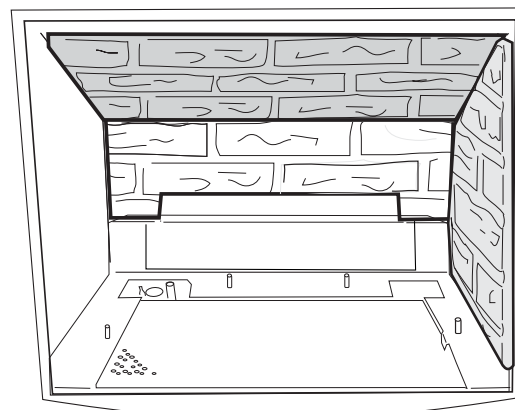

Figure 44 . Install the Upper and Side Panels.
- 6. Install one of the Side Panels,** pushing it up against the firebox wall. Fig. 44
- 7. Position the Upper Panel.** You should seat the Upper Panel down and forward so that no gaps are evident at the panel joints, as in Fig. 44.